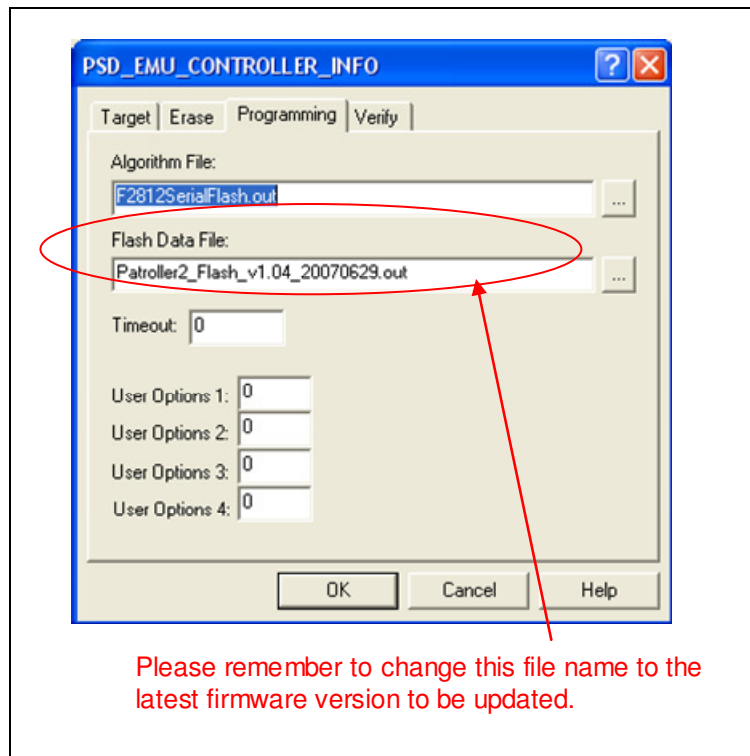

Figure 5: PSD_EMU_CONTROLLER_INFO Programming Tab
8. In the PSD_EMU_CONTROLLER_INFO Programming tab shown in *Figure 5*.
- 8.1. Please make sure that the screen setup for the Programming tab is as shown in *Figure 5*.